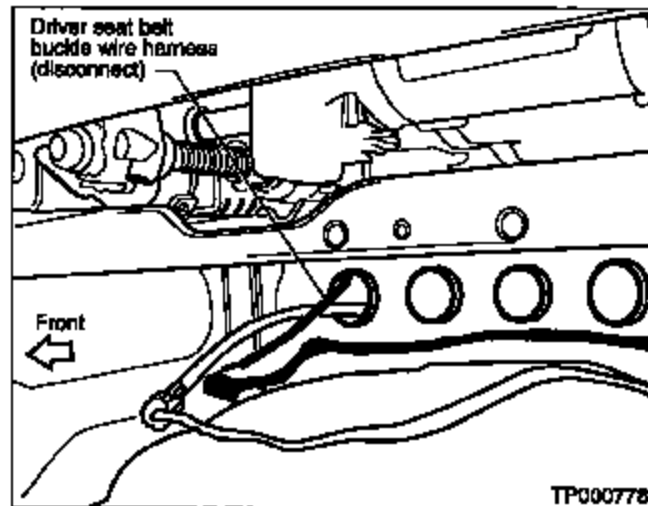

Figure 18
1. Reach under the driver's front seat and disconnect the seat belt buckle wire harness connector from the vehicle wire harness (see Figure 18).